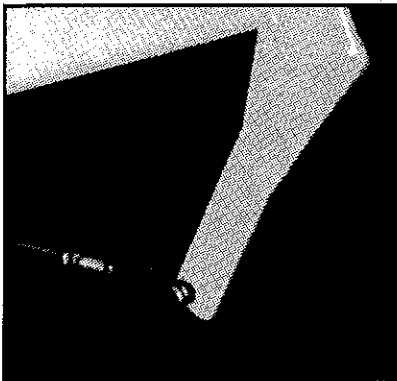

FIG. 26 - CABLE CONNECTION TO SAFETY BAR
- STEP 3: Remove the yoke from the lower pivot of the safety bar by removing the cotter pin to free the pin. (Refer to Figure 26.)